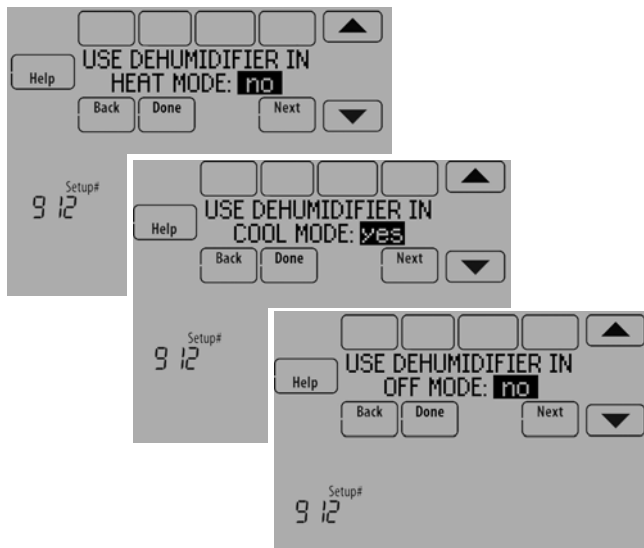

Fig. 198.
5. Select the system mode(s) to allow dehumidification. See Fig. 198.